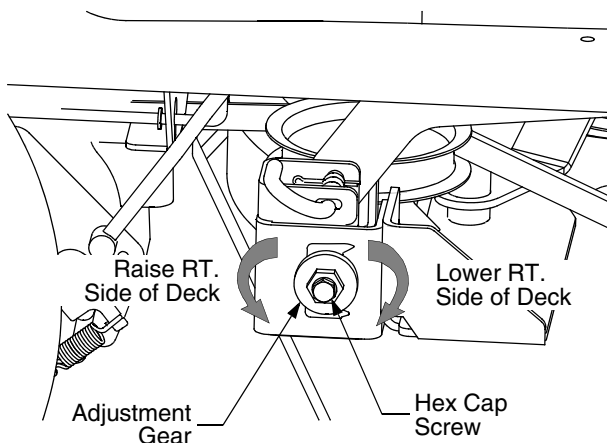

Figure 30
- Loosen, but do not remove, the hex cap screw on the right deck hanger bracket. Refer to Figure 30.
- Level the deck by using a wrench to turn the adjustment gear (found immediately behind the hex cap screw just loosened) clockwise to lower the right side of the deck, or counterclockwise to raise the right side of the deck. Refer to Figure 30.